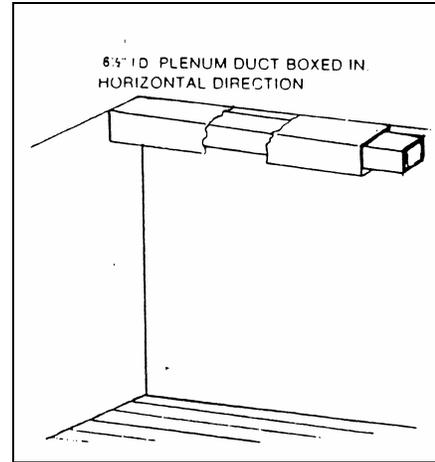

Figure 7. Typical Plenum Horizontal Layout
11. **Plenum in Living Area:** In some homes where attic space is not available, the plenum can be enclosed by boxing it in (see Figure 7) or running it above dropped ceilings. In areas with cathedral ceilings, this can be done along with boxing in the supply tubing next to an exposed beam. Remember that once the system is boxed in it is difficult to gain access for changes so it is imperative that the system be properly designed and checked out for airflow before final boxing is done.